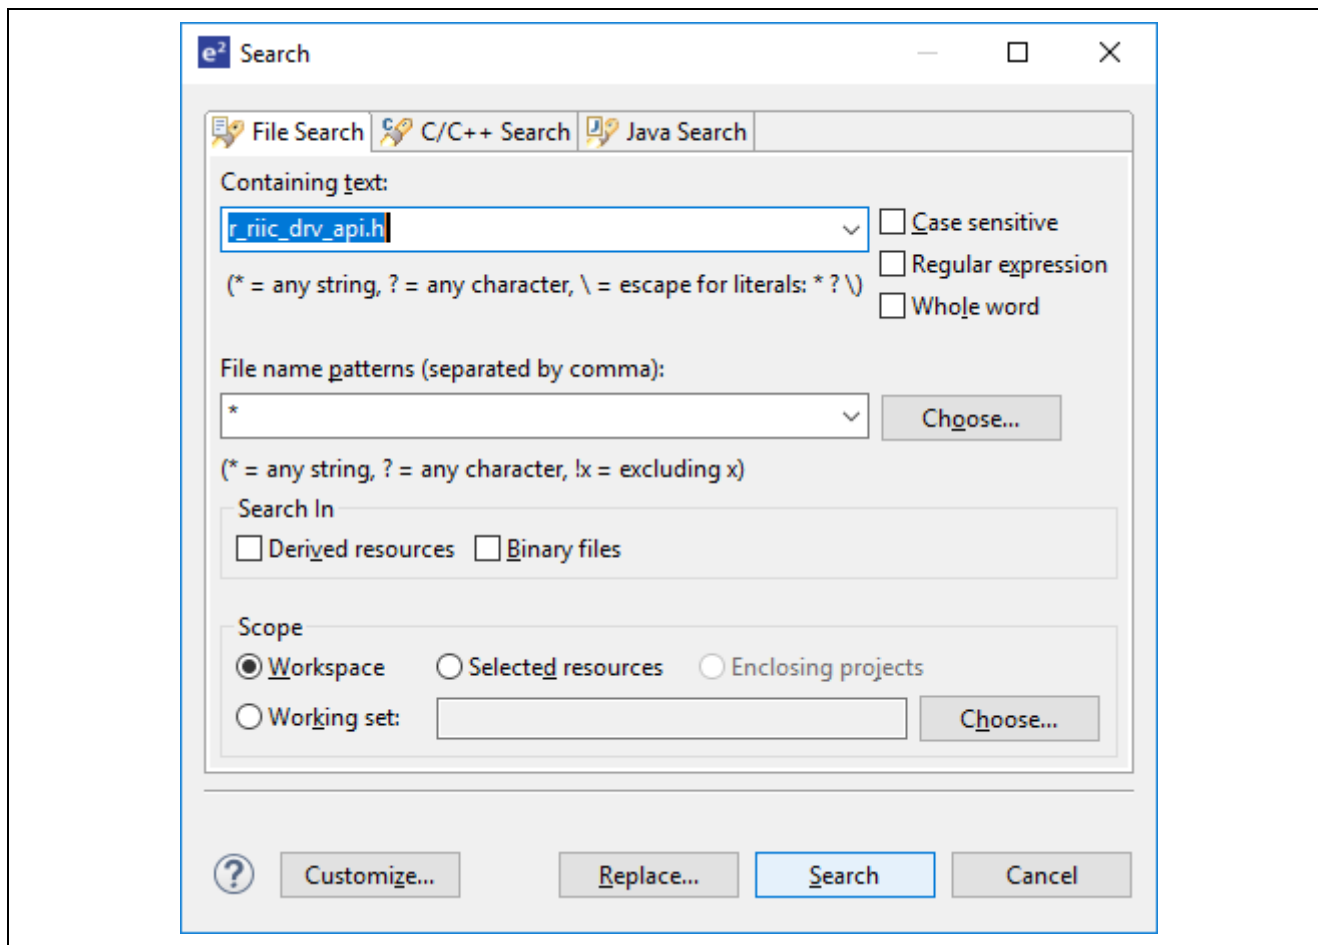

Figure 4-6 Searching the file that includes “r_riic_drv_api.h” <2>
- Input “r_riic_drv_api.h” in “Containing text:” box, and press “Search” button. This is shown in Figure 4-6.